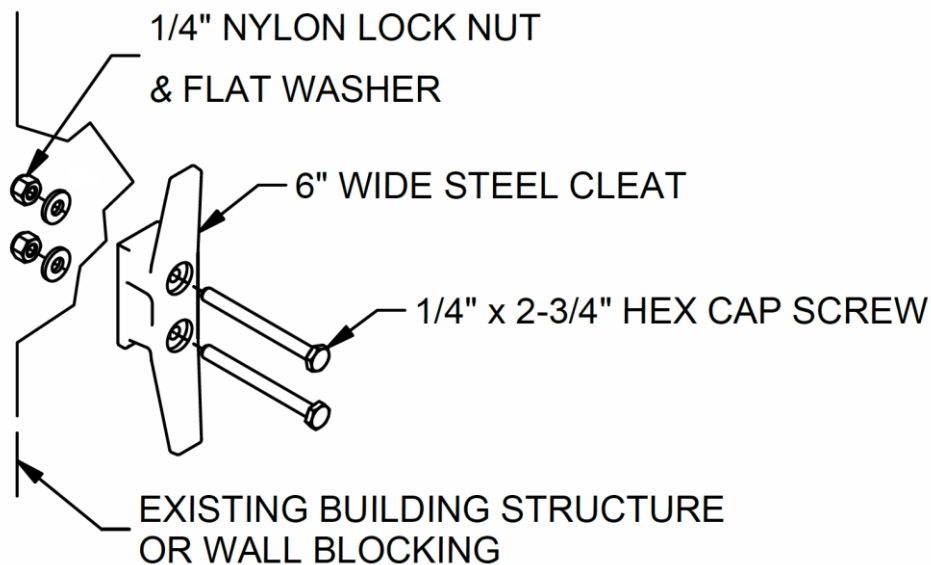

Figure 8: Standard Building Attachment - For Metal Structure and Wood Blocking
- 8) Install the Six, 6" wide steel cleats beneath each of the six lines, see Figure 8 & 9. It is recommended that the cleats be installed at a height of at least 7 ft above the floor.